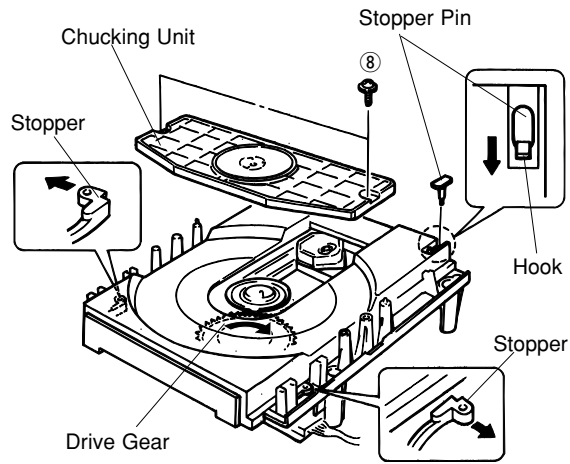

Fig. 7
- a. Remove 2 screws (⑧) and then remove the Chucking Unit in Fig. 7.
- b. Remove 1 hook and then remove the Stopper Pin in Fig. 7.
- c. Rotate the Drive Gear and then open the Tray Unit in Fig. 7.
- d. Detach the Stoppers on both sides and then pull out the Tray in Fig. 7.